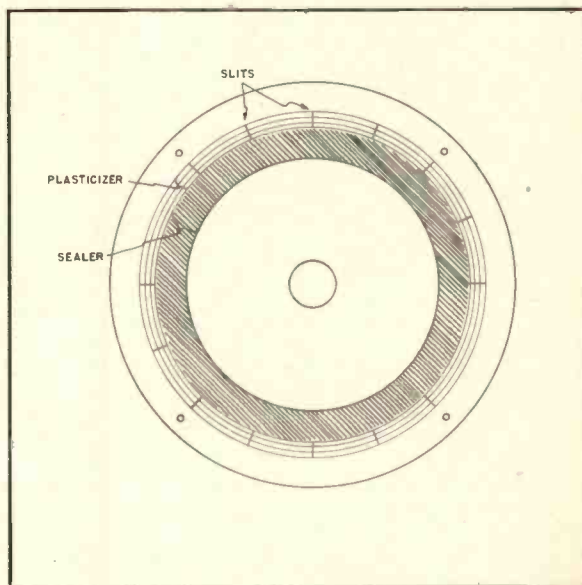

Fig. 2. Method of slitting cone, as described by the author, and location of shellac sealing ring.
The first method is called "slotting" by the makers of Permoflux loudspeakers. As shown in Fig. 2, the speaker is made less stiff by radial incisions in the suspension. The improvement derived from this treatment depends on the merit of the suspension design beforehand. The suspension area of some good modern speakers is extremely thin, as can be
Fig. 2. (A) Comparison of performance of reverse flare, multicellular, and pie-wedge horns. (B) Relative angular response in horizontal (solid lines) vs. vertical (dotted lines) radiation in reverse-flare horn.